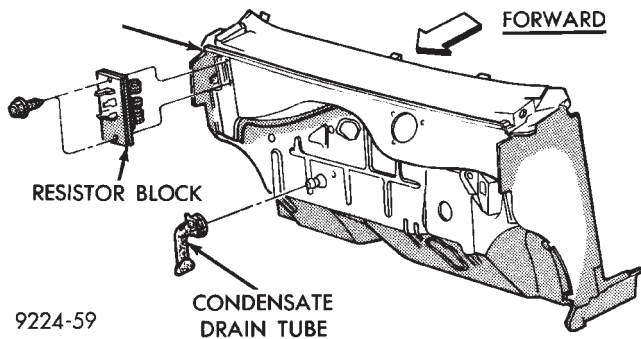

Fig. 3 Resistor Block Removal or Installation
(1) Open hood.
(2) Locate and remove the wire connector from the blower resistor block. Block is located at the back of the engine compartment on the passenger side of the vehicle (Fig. 3).